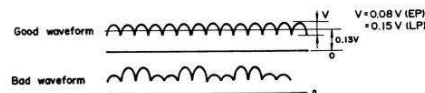

Figure 7-3
2) 4-COIL CURRENT (Refer to Figures 7-3 and 8-2)
2. Adjust the semi-variable resistors (VR6 and 7) so that good waveform indicated in Figure 7-3.